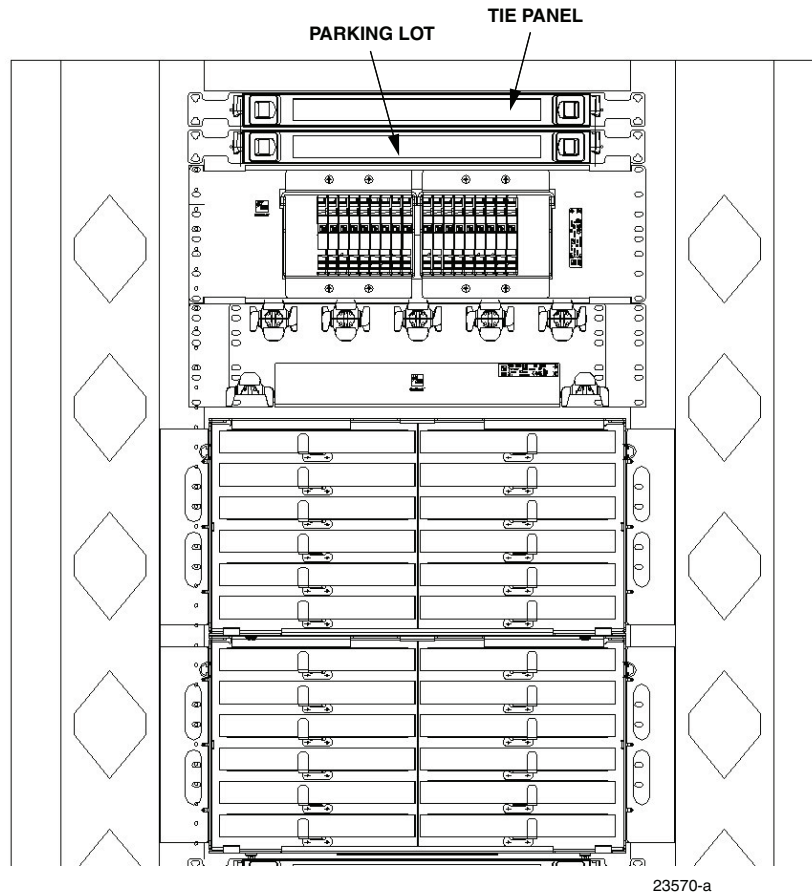

Figure 4. Alternate Configuration With Tie Panel
- **Note:** The alternate configuration shown in Figure 4 containing a one-rack-unit parking lot and one-rack-unit tie panel provides a means to route splitter outputs to a termination panel on another rack or on a different half of the same rack.
- **Note:** To route cables to a termination panel on the other half of the same rack or on an adjacent rack, the rack must have a tie panel such as shown in Figure 4.